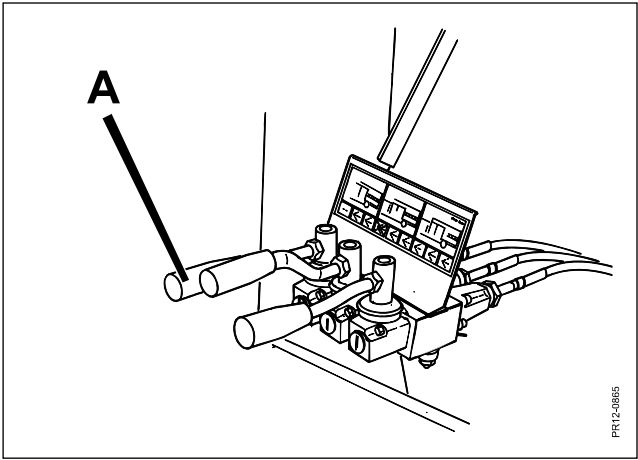

Fig. 5.3
Fig. 5.3 The mixing tub is adjusted by means of a handle (A) so that it is horizontal while mixing. Thereby accumulation of feed in the ends is avoided, and a precise measuring of weight is ensured.